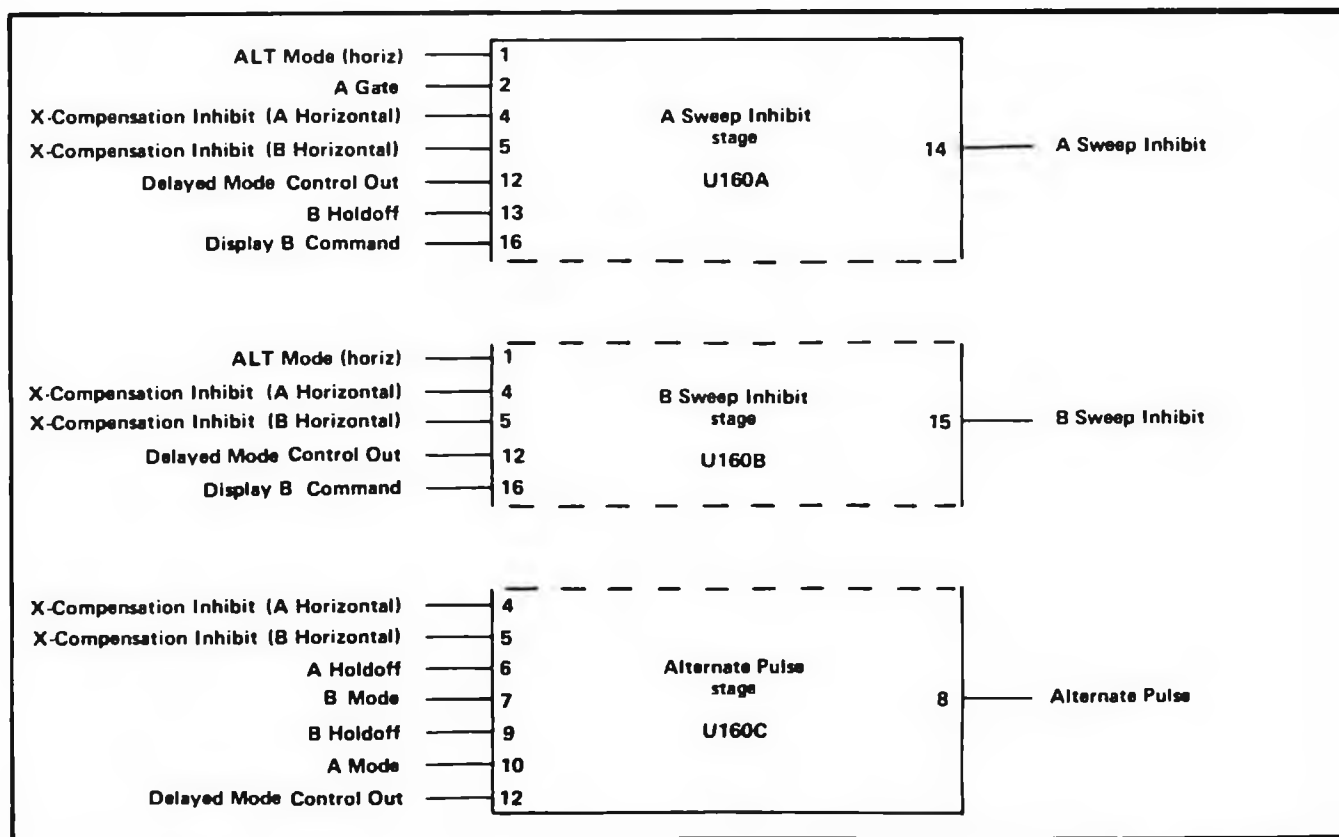

Fig. 3-3. Breakdown of separate stages within Horizontal Logic (U160) showing inputs and outputs for each stage.
**General.** The Horizontal Logic stage performs three separate logic functions. These functions are; A Sweep Inhibit, B Sweep Inhibit and Alternate Pulse Generator. Fig. 3-3 identifies the three individual stages and the input and output terminals associated with each. Notice that some of the input levels are used in several or all of the individual stages.